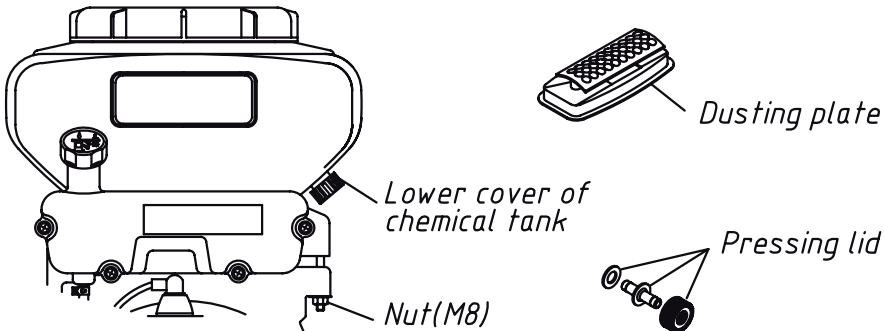

Figure 3
(2) As shown in Fig.3, connect dusting pipe to the machine. 2